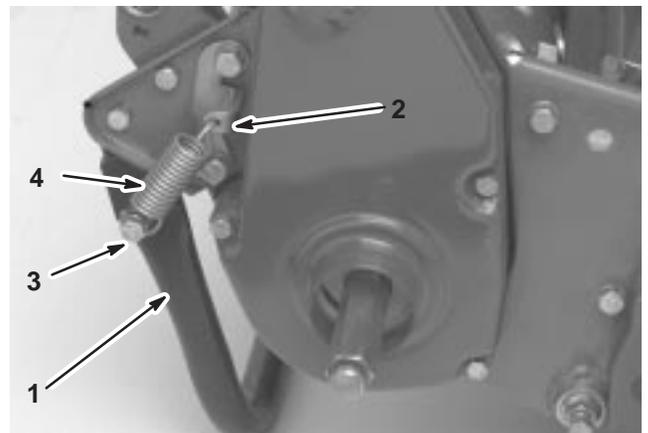

Figure 3
- Hook spring into hole in spring bracket and onto spring retainer while aligning kick stand with mounting holes in rear frame (Fig. 3).
- Mount kick stand to each side of frame with a capscrew, lockwasher, spacer flat washer and lock nut (Fig. 3). Spacer to be positioned in kick stand mounting hole.